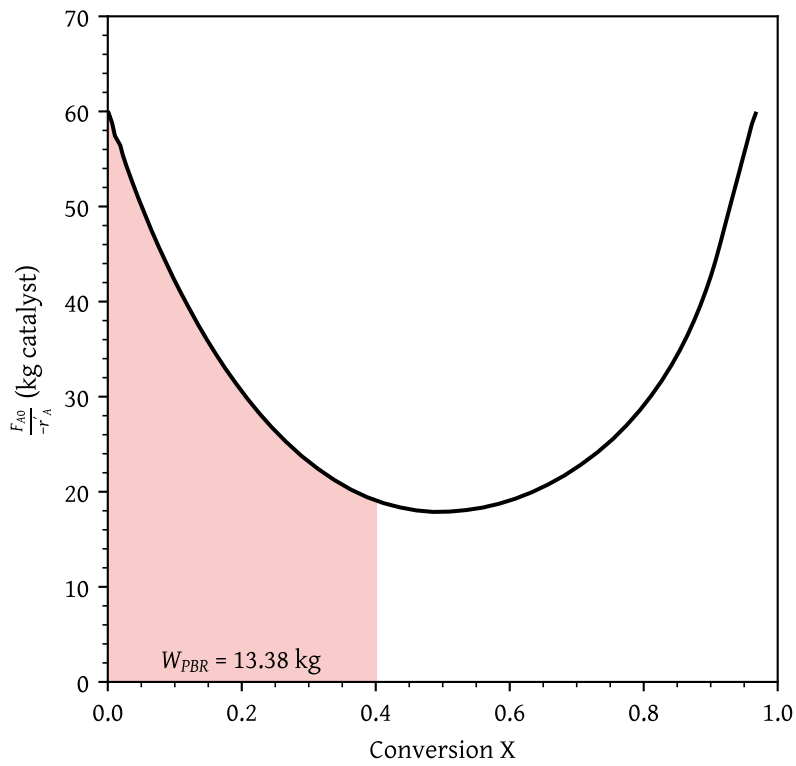

Figure 27: Catalyst weight for 40% conversion in PBR
- What PBR weight is necessary to achieve 40% conversion? (Figure 27)